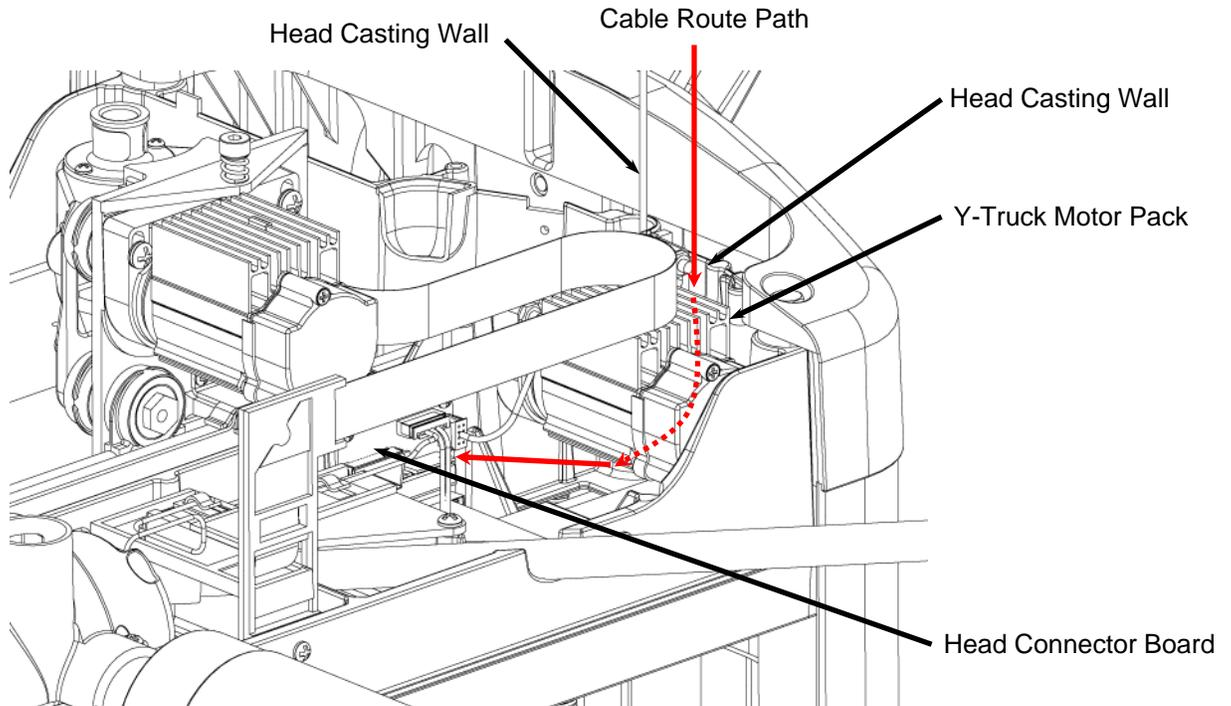

**FIGURE 20:** PLACEMENT OF THE BLOW DEFLECTOR - ISO
- a. Move the Y-truck all the way to the left side of the machine and make sure that the FFC cable does not drag on the Y-truck heatsink (See Figure 20). If the FFC cable is dragging bend it upwards so that it consistently clears the heatsink.